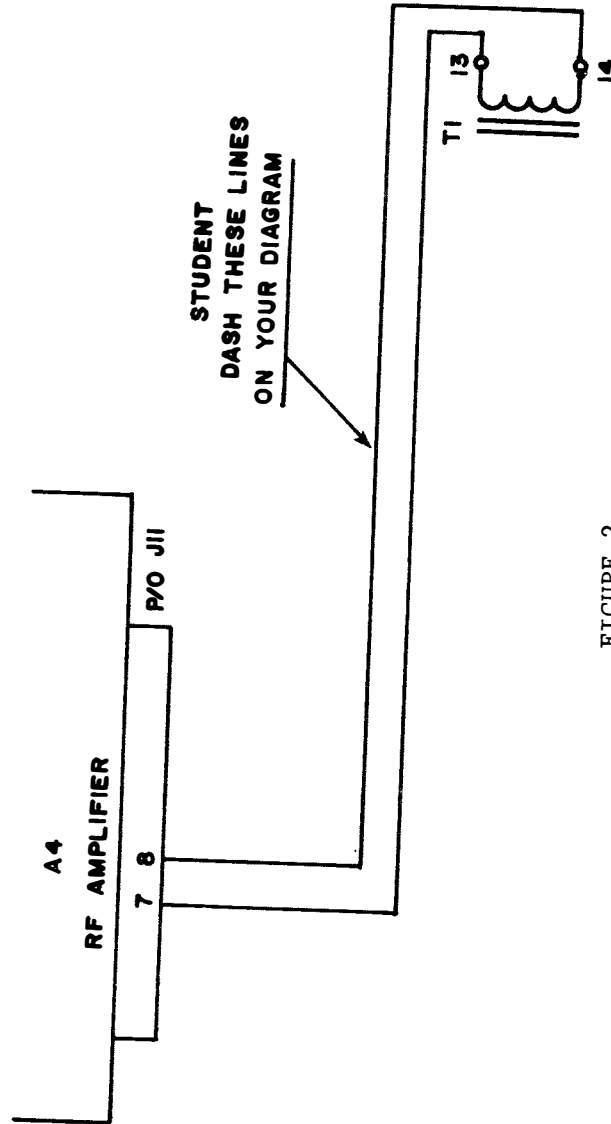

FIGURE 2
3. Using a YELLOW pencil or fine point felt tip pen and the Figure 2, color code the mainframe 6.3 VAC distribution using dashed lines.